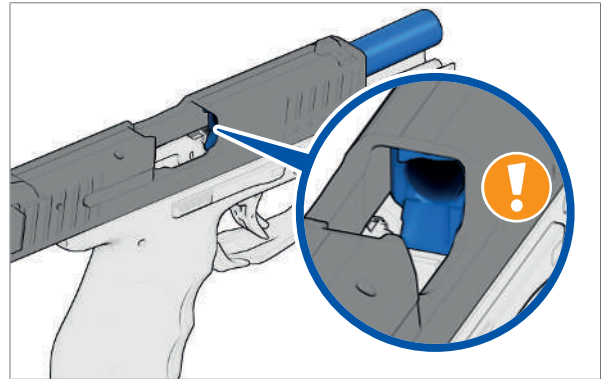

Fig. 19: Look into the chamber
3. Look into the chamber (*Fig. 19*). There must not be a cartridge in the chamber. If there is a cartridge in the chamber, then a fault is present. ▶ Faults: Causes and remedies.